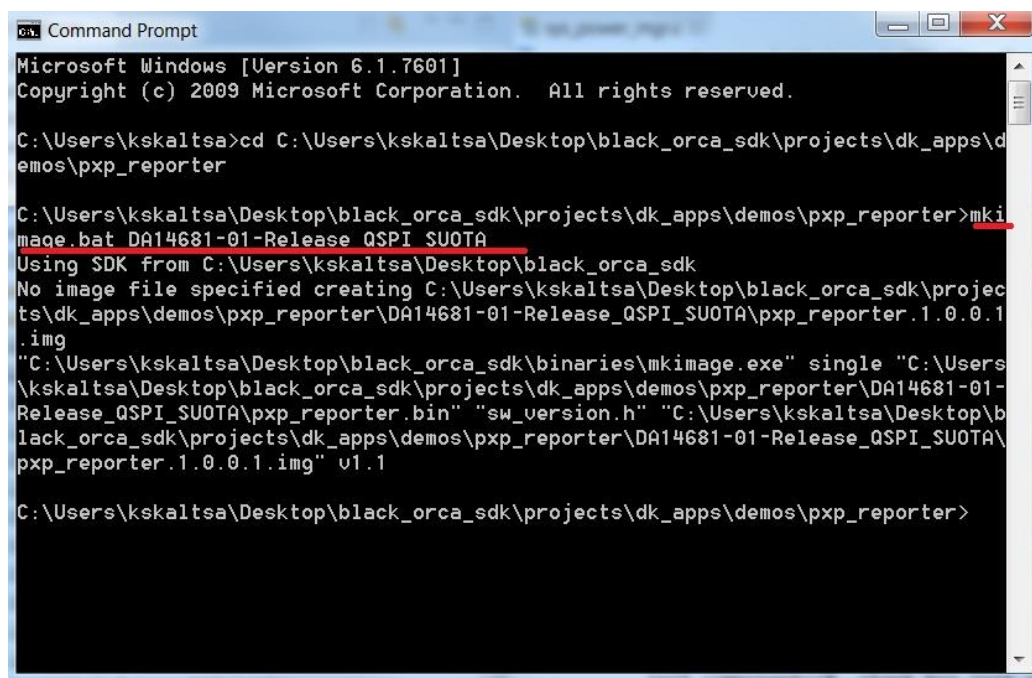

Figure 45: Run mkimage.bat script on Windows
4. On Windows run the MKIMAGE script with the following command (Figure 45):